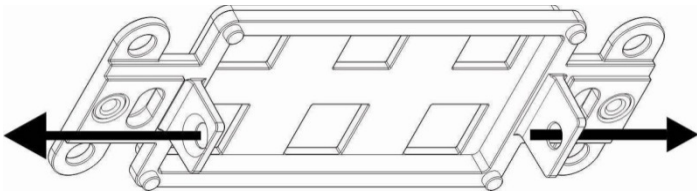

Figure 2: Removing the Mounting Plate Screws
2. Remove the two mounting plate screws (see Figure 2) and remove the mounting plate. Put the screws aside.